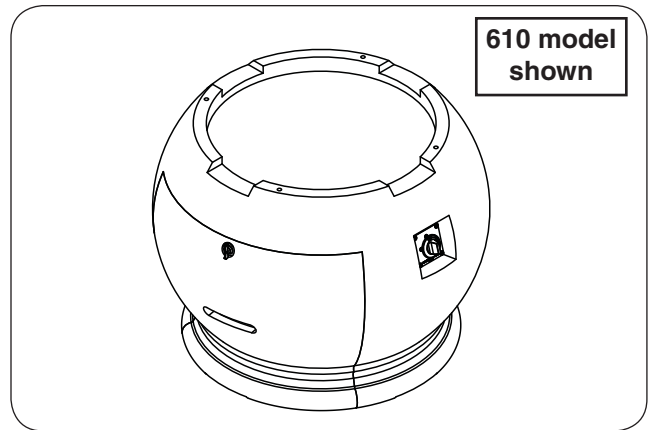

Fig. 23-1 Place base
1. **CAREFULLY** place the base in an appropriate location (see Fig. 23-1, and refer back to the LOCATION section if needed).